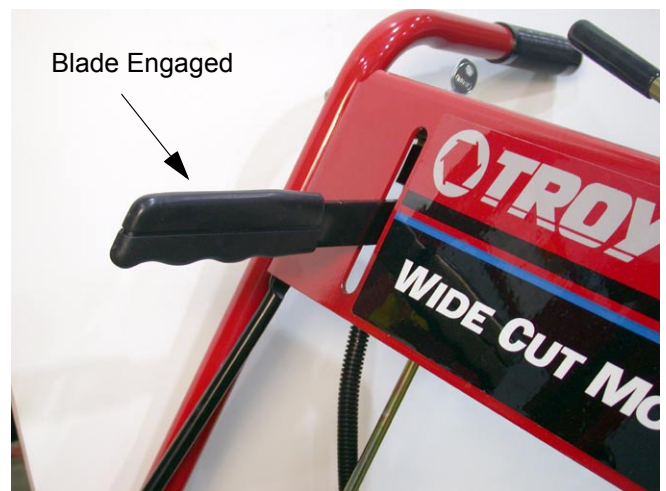

Figure 46
- 13.8. Engage the blade control lever to move the brake pad away from the drive pulley. See Figure 46.